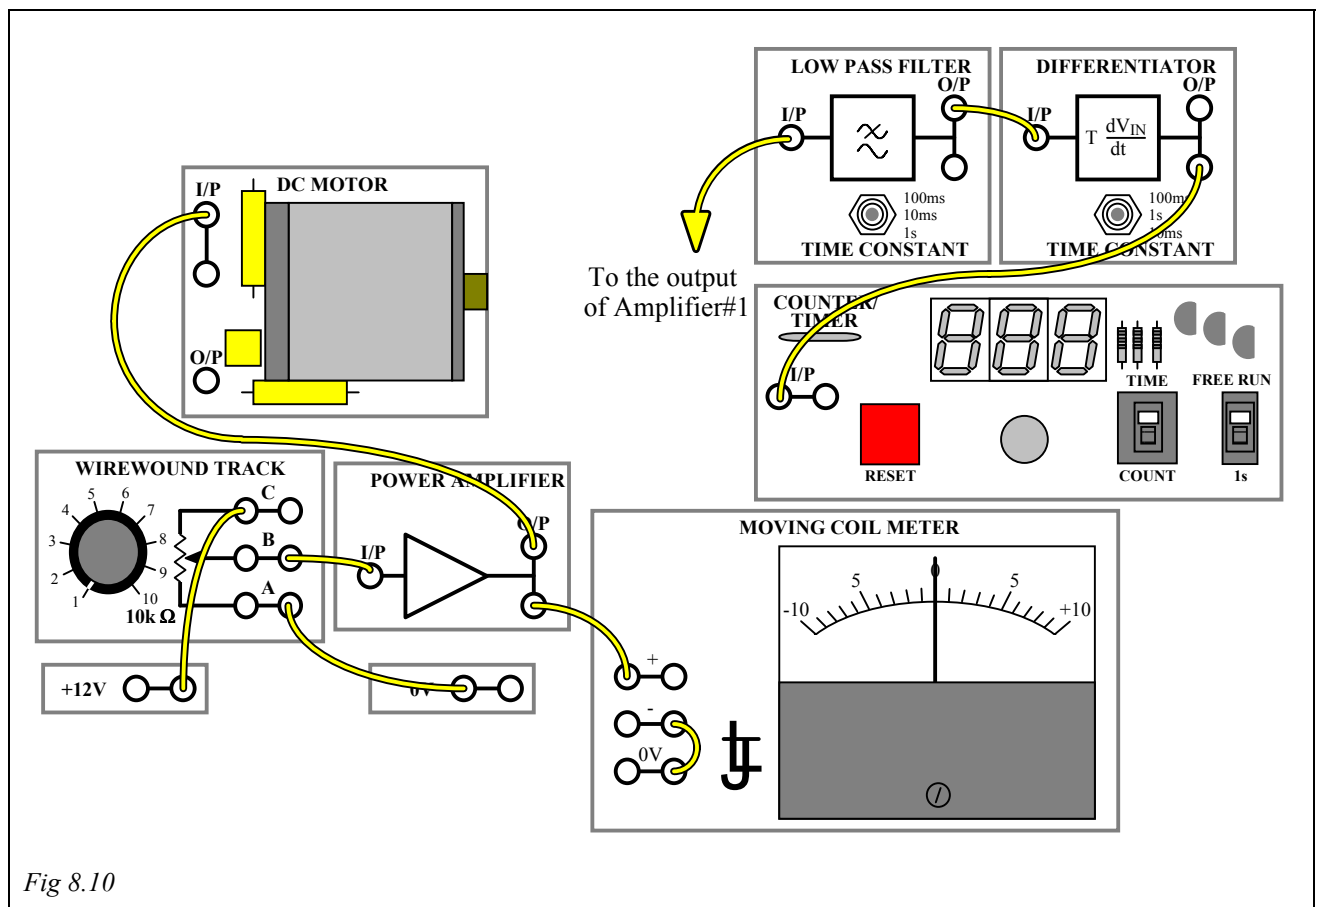

Fig 8.10
- Switch OFF the power supply. Retain your circuit, but remove the Moving Coil Meter from the output of Amplifier #1 and then add the circuits of Fig 8.10.